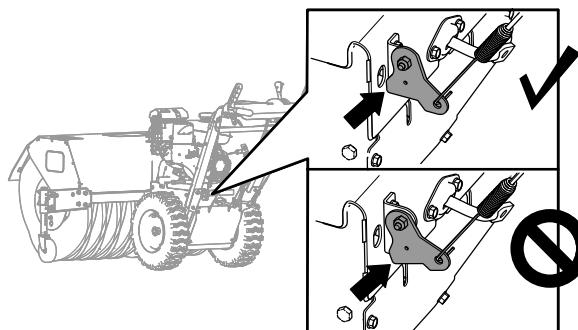

Figure 33
2. Check the clearance between the bottom of the traction-cable bracket and the top plate of the machine (Figure 33).